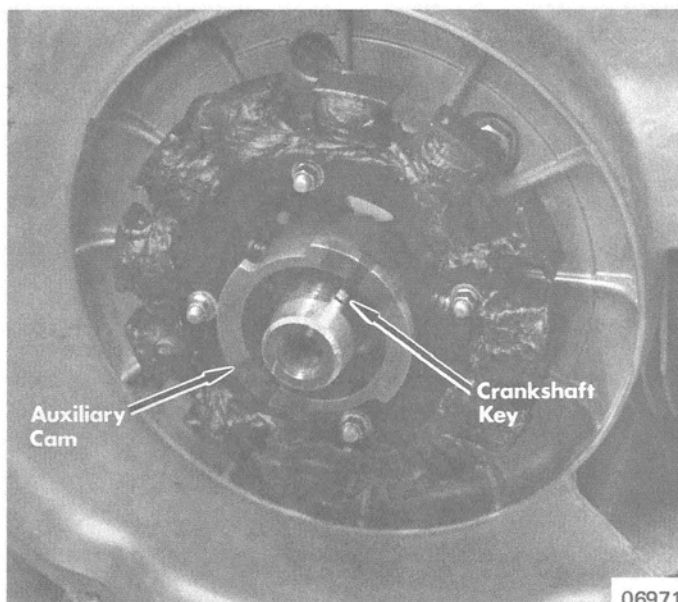

Figure 3. Auxilliary Cam Installed
3. Install Auxiliary Cam (D-61071), part of Timing Tool (C-91-62527A2), on crankshaft. (Figure 3)